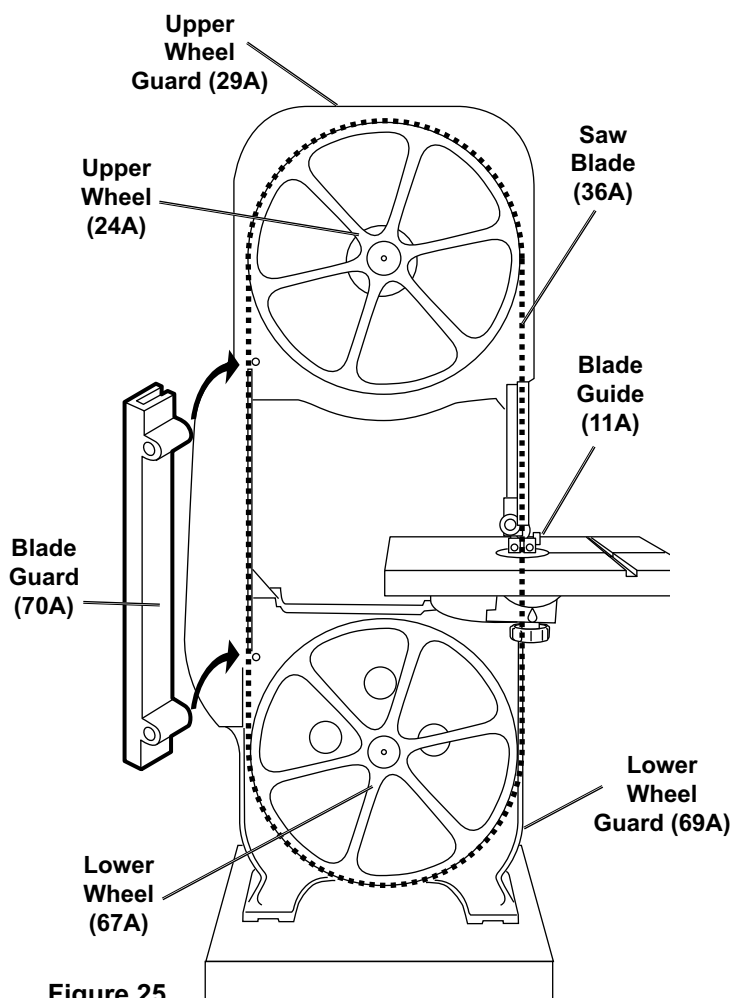

Figure 25
- Place the Saw Blade (36A) through the upper Blade Guides (11A) and over the Upper Wheel (24A). See Figure 25
- Place the Blade Guard (70A) onto the two Studs and over the Saw Blade. See Figure 25.